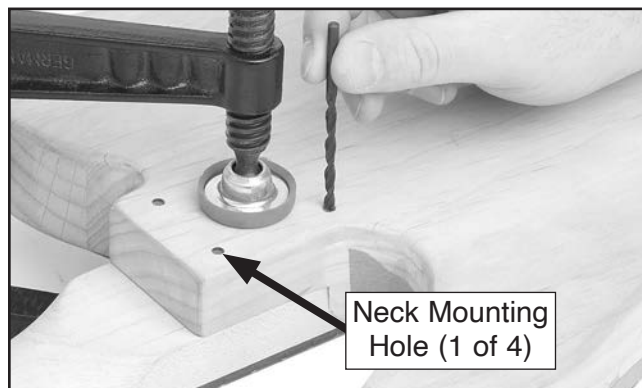

Figure 7. Making a pilot hole in neck.
4. Insert a $\frac{5}{32}$ " drill bit by hand into each pre-drilled neck hole (see **Figure 7**). While pressing down slightly, twist drill bit to make pilot holes in neck.